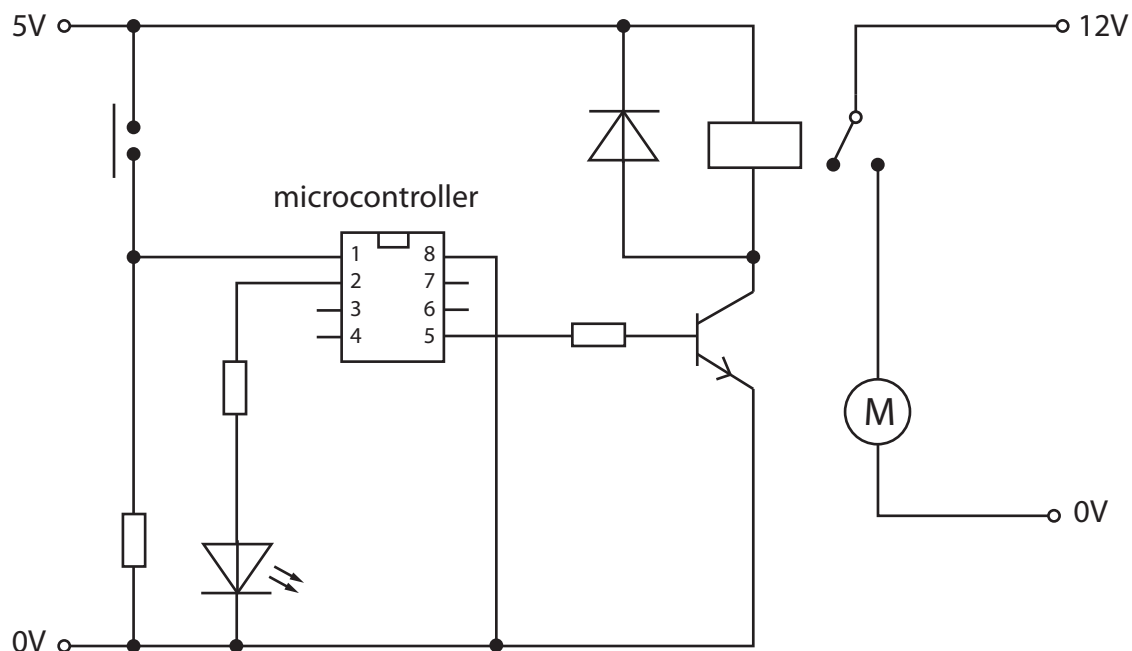

Figure 18
- (ii) Figure 18 shows a diagram of a circuit that is used to control a motor that drives the cooling fans on the laptop.